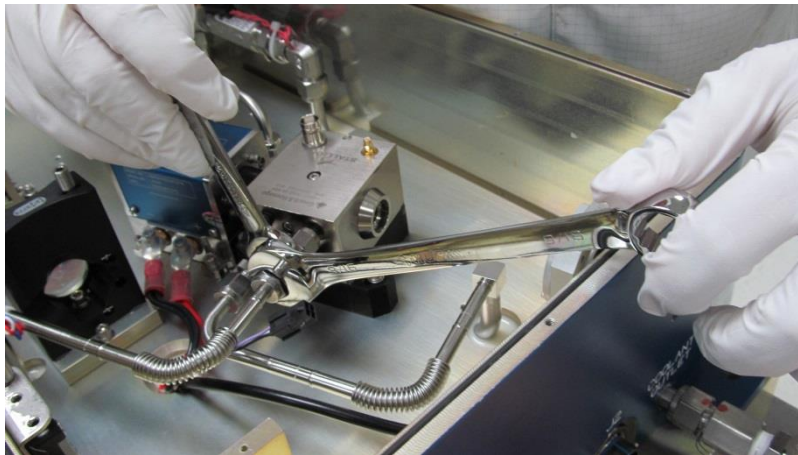

Figure 2-20: Removal of the Q-Switch Hard Plumbing
3. Mark both SwageLok pieces with permanent marker as reference for reinstallation. Carefully remove the hard plumbing using two (2) 9/16" (14mm) wrenches. See **Figure 2-20**.